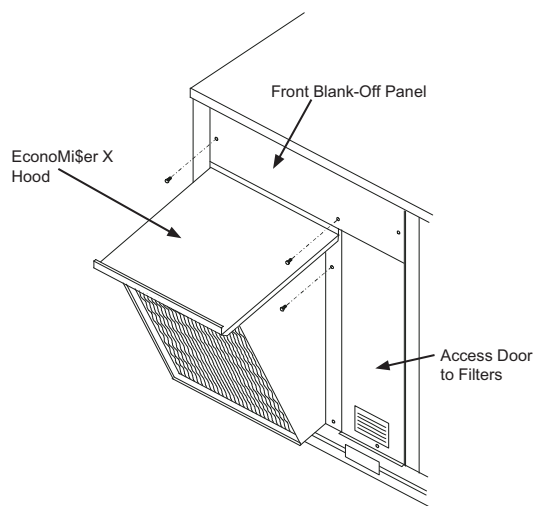

Fig. 22 - Front Blank-Off Panel Installation Panel
15. On some units, the EconoMi\$er X and hood do not reach to the top of the unit. In this case, a front blank-off panel must be installed. Install provided front blank-off panel above hood. Screw in place (See Fig. 22).